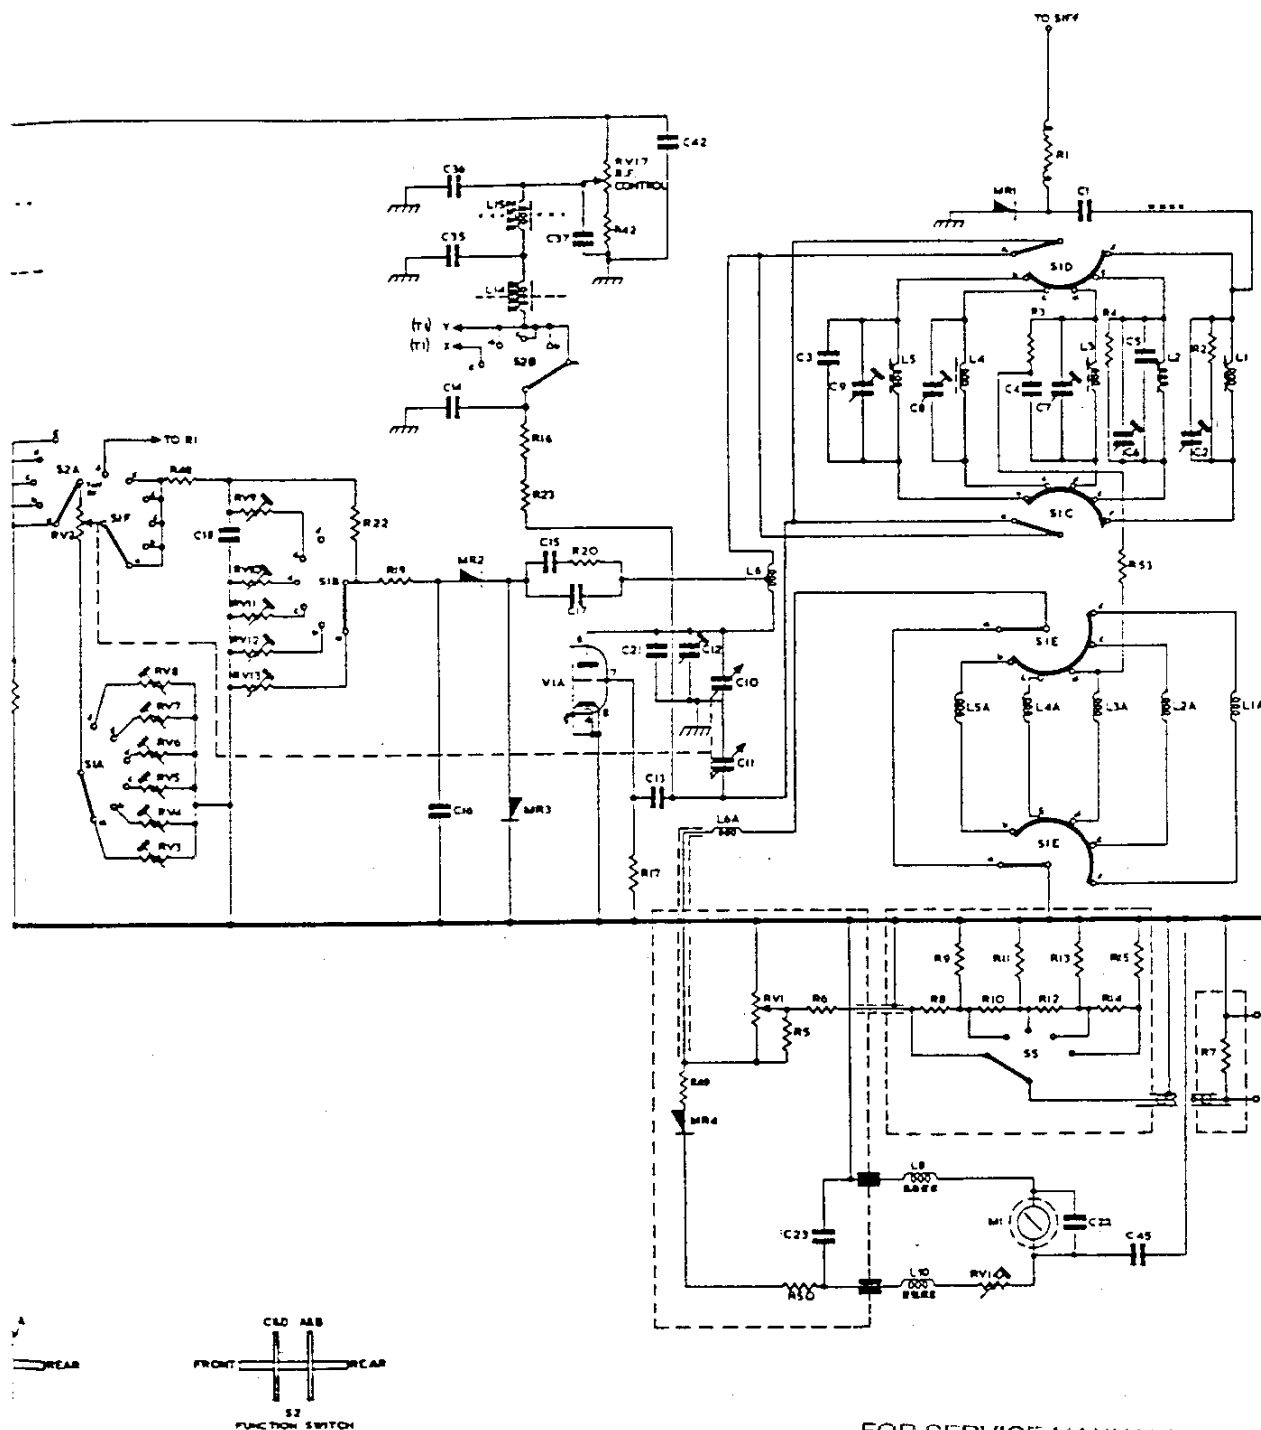

Fig.3 Circuit Diagram
When the FUNCTION switch is set to position 'a' (Fig. 3) the output from V1A is fed to the cathode circuit of V1B. The switch position causes V1B to operate again as a Hartley type oscillator but this time at the crystal controlled frequency of 5 MHz. Thus the RF output signal is heterodyned with the 5 MHz oscillator signal and the output is amplified by VT1 which provides an AF output at the PHONES socket. The RF output can, therefore, be calibrated to the nearest 5 MHz using earphones and a zero beat technique.
- (1) Set the FREQUENCY RANGE switch to position C, the FREQUENCY control for 35 MHz and the LINE FM control to 200 kHz.
- (2) Adjust the setting of the SET OUTPUT control until the meter indicates 'SET'.
- (3) Using an Avometer model 8, or similar instrument, check that the voltages at the test points indicated on the circuit diagram, Fig. 3, for the various settings of the FUNCTION switch, are within $\pm 7\%$ of the readings detailed in Table 1.